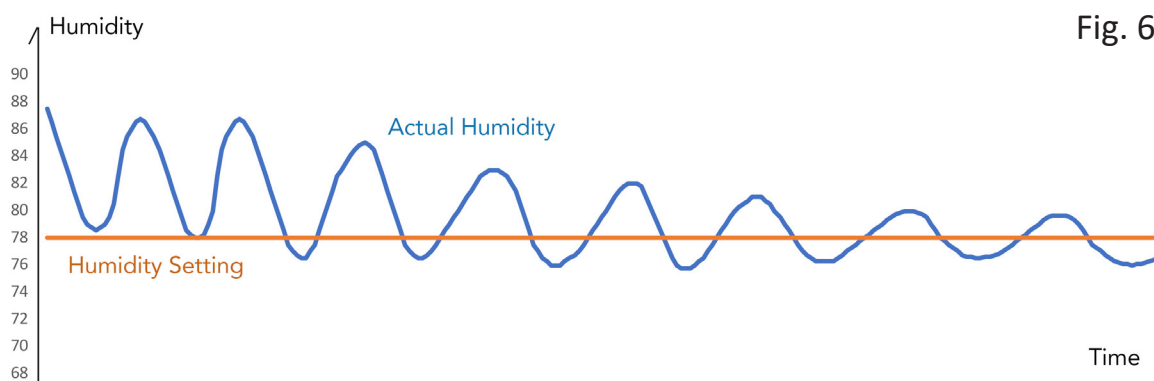

Fig. 6
Due the nature of humidity in the air and the large amount of moisture provided to the environment by the meat in your cabinet, you will find the humidity will oscillate up and down around your setting. This is normal. If you have just placed a batch of fresh meat into you cabinet, you will find the peaks of this oscillation will be steeper and the frequency between cycles shorter, *Fig. 6*.
- Monitor humidity reading on the control panel. You should see it moving up and down in cycles, as described in Section 7 (*Page 9, Figure 6*).